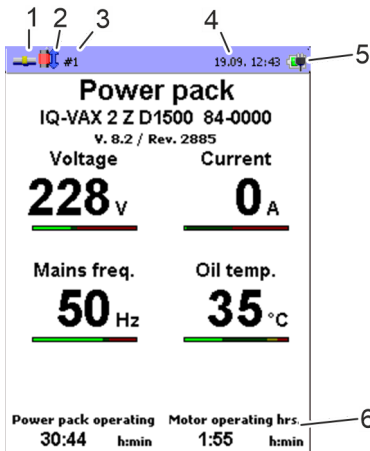

Fig. 34: Display elements
- ⇒ A proper connection between the hydraulic power pack and control unit (BE) is indicated in the connection status (Fig. 34/1) by .
- ⇒ If the data connection has been established between the control unit (BE) and the hydraulic power pack, the 'Power pack' menu is displayed.
5. If there is a faulty connection between the control unit (BE) and the hydraulic power pack (connection status ) , ensure that the adapter cable has been connected correctly.
12.6 Tensioning with the control unit (BE) (dual hydraulic power packs only)